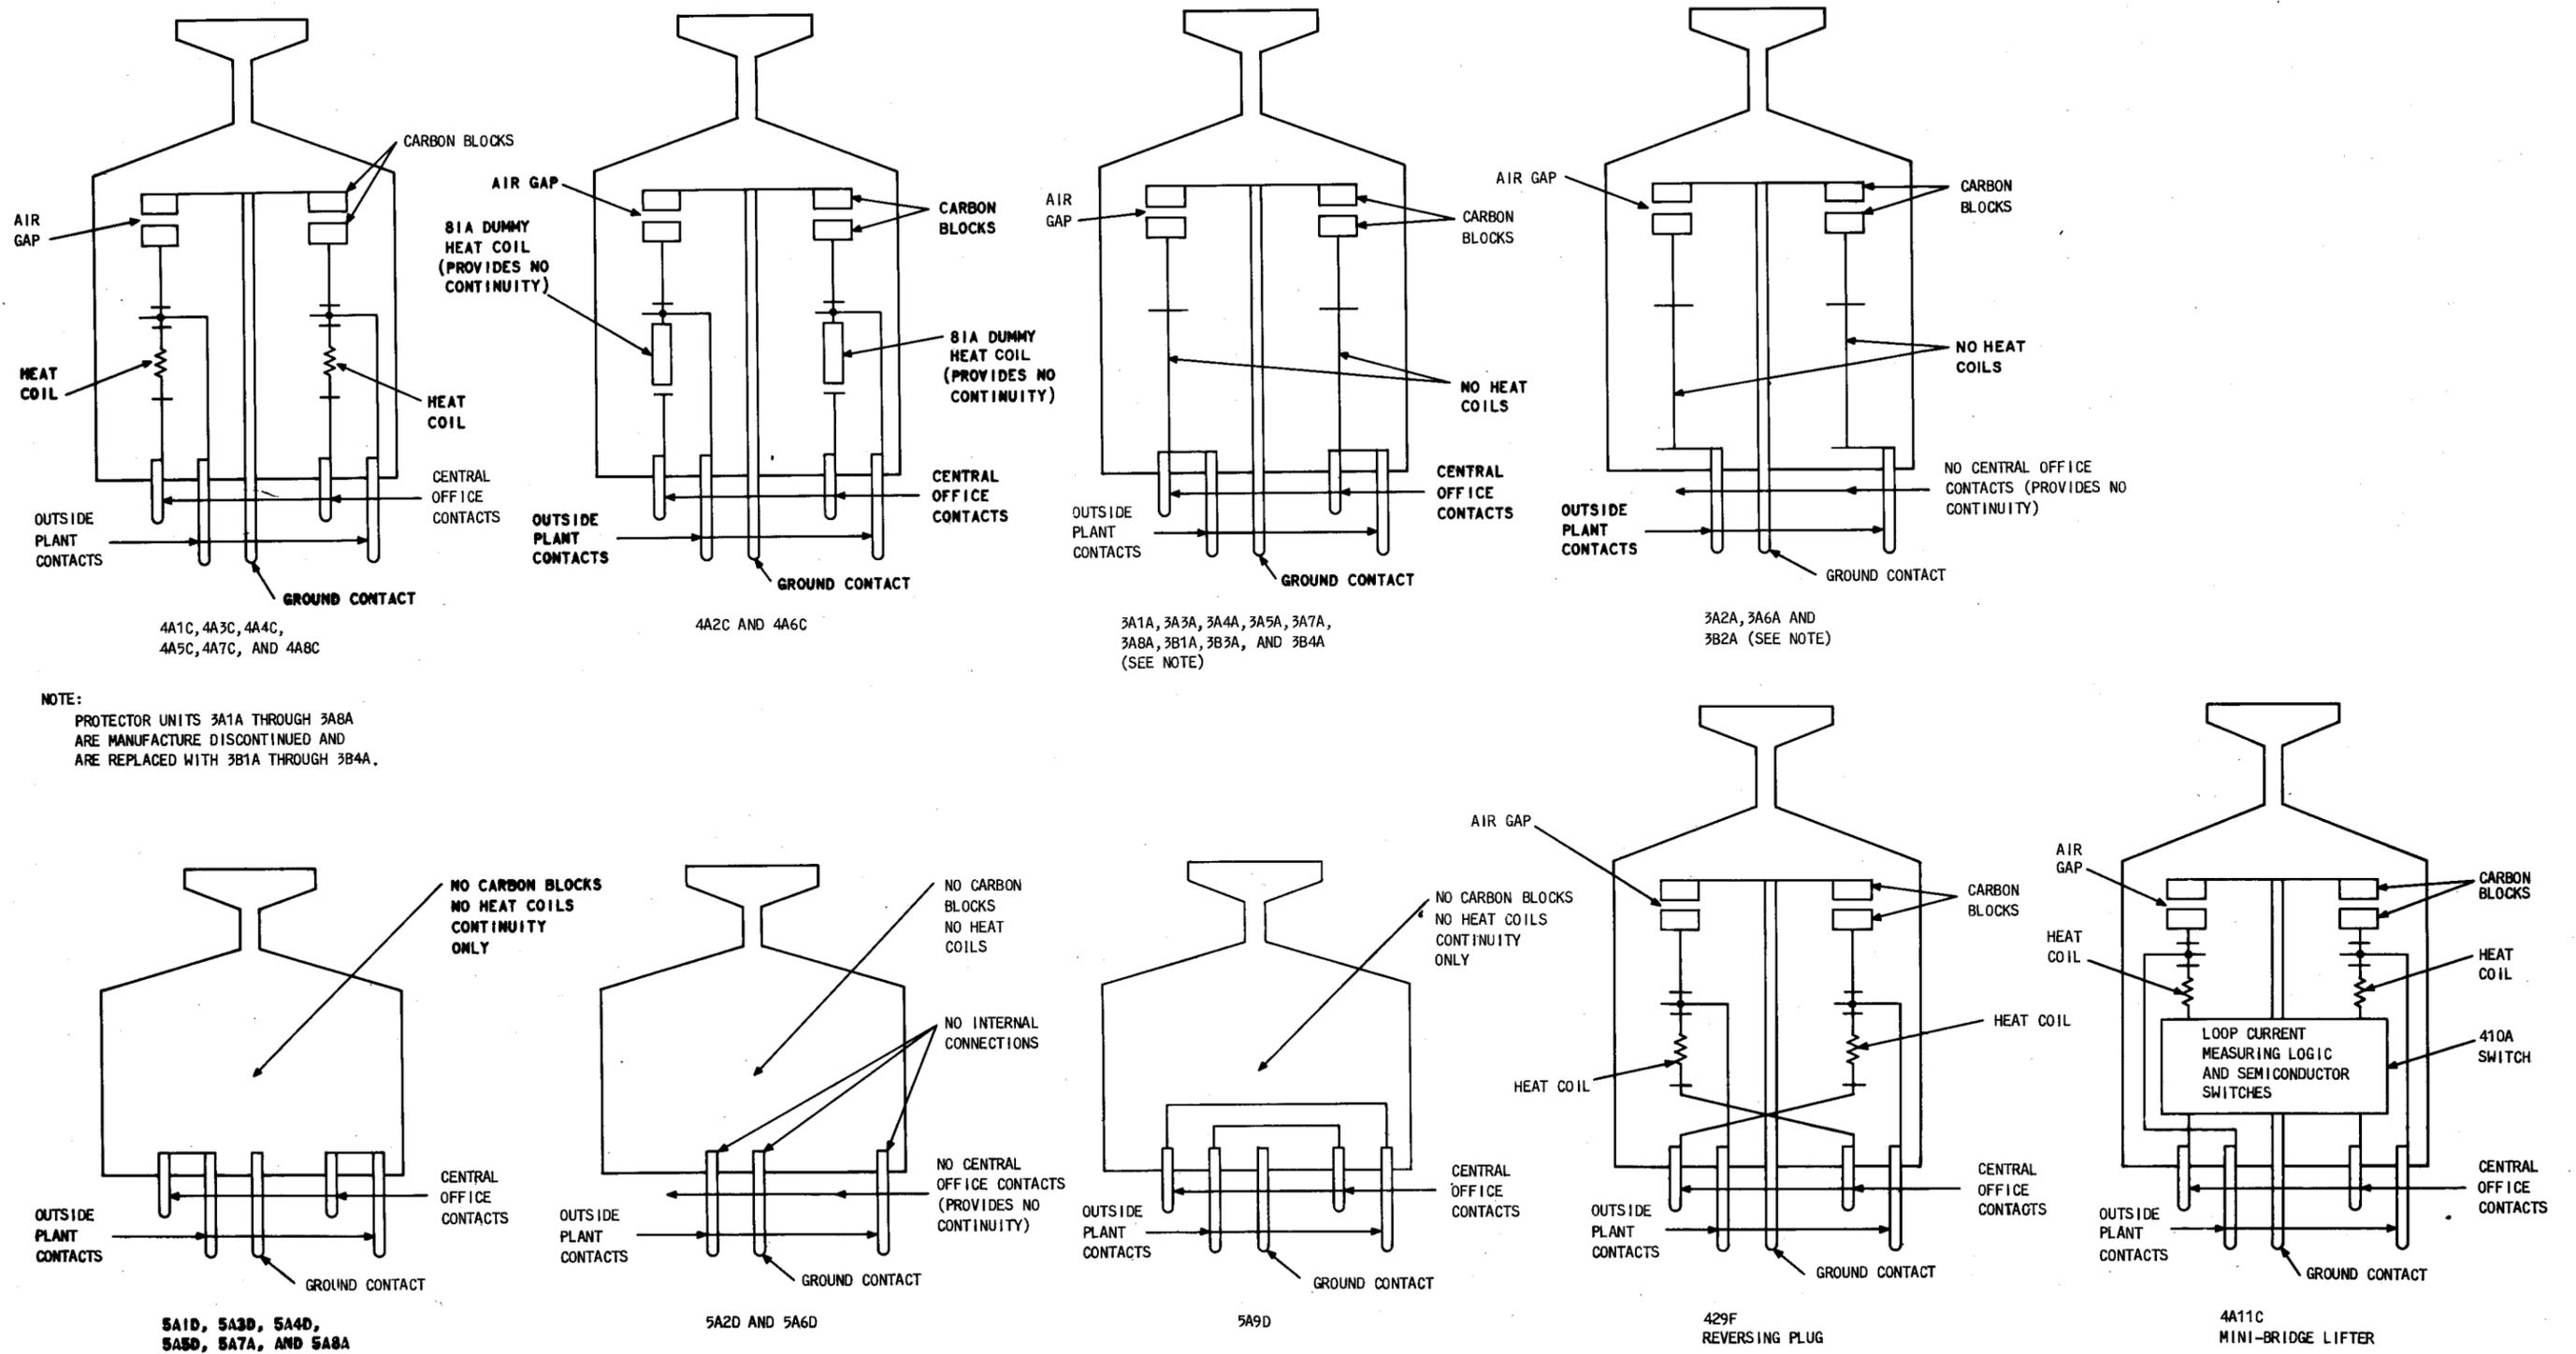

Fig. 6—Internal Connections 3A-, 3B-, 4A-, 5A-Protector Units, 429F Reversing Plug, and 4A11C (Mini-Bridge Lifter)
**1.08** Internal connections of protector units for 302-, 303-, and 305-type connectors are shown in Figure 6.